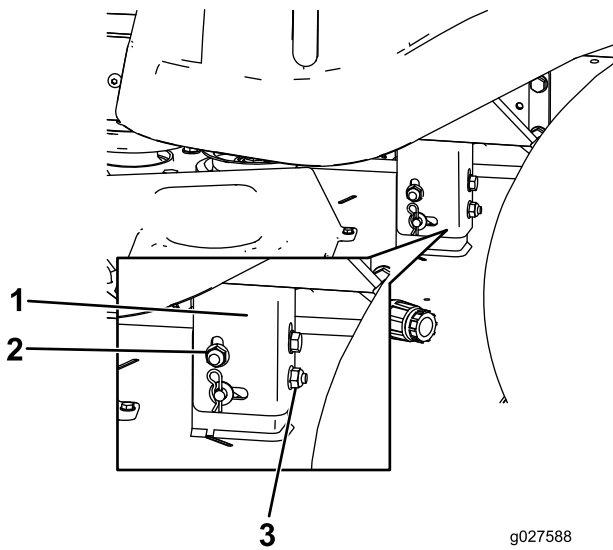

Figure 66
8. Raise or lower the left side of the mower deck by rotating the rear locking nut (Figure 66).
Note: Rotate the rear locking nut clockwise to raise the mower deck; rotate the rear locking nut counter-clockwise to lower the mower deck (Figure 66).